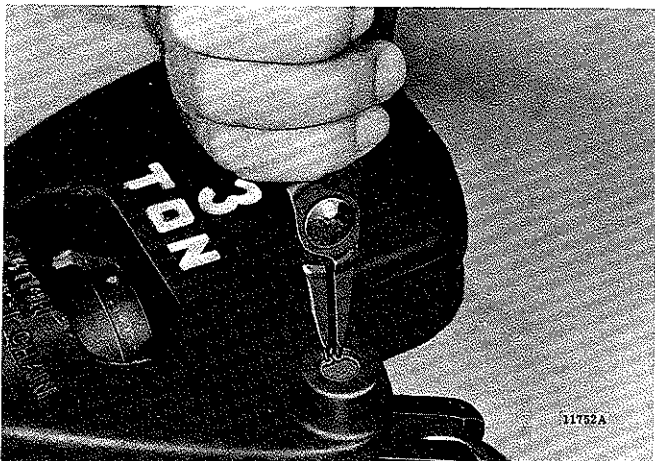
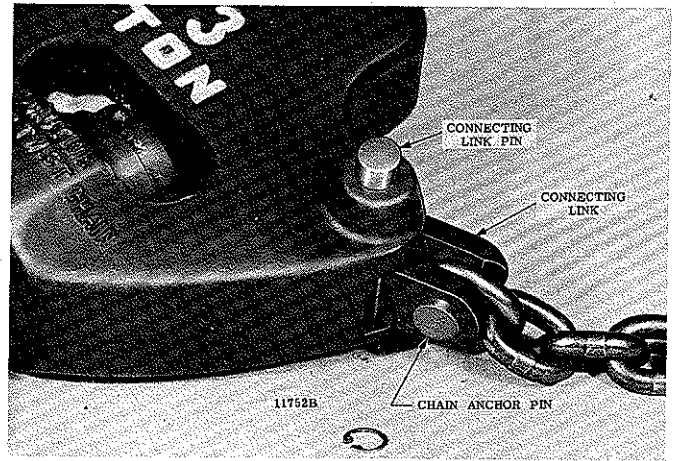

Figure 7-33. Removing Retaining Ring From Bore of Connecting Link Pin - 3 Ton Lower Block Assembly.
Figure 7-34. Removing Connecting Link Pin From 3 Ton Lower Block Assembly.
(1) Remove chain sprocket from lower block following procedure for 2-ton coil chain models described in paragraph 7-5, b, (2) above.
(2) To disconnect end of chain anchored to lower block, remove retaining ring from pin bore (Fig. 7-33). Push connecting link pin from bore by pressing through hole provided in opposite side of block (Fig. 7-34). Chain connecting link is now free and can be further disassembled for inspection.
(3) To remove hook from lower block body, first drive grooved pin from hook nut. Then hold nut from turning using drift punch and rotate hook to unscrew it from nut. Separate hook, shroud and thrust washer from body. Note that bearing surface of washer faces nut.
(4) To remove chain sprocket from upper suspension hanger, first remove hanger as outlined in paragraph 7-2, a, (4). With hanger removed, push sprocket pin from hanger and sprocket. Note: Sprocket pin must be removed toward side having small anti-rotation pin slot in hanger.